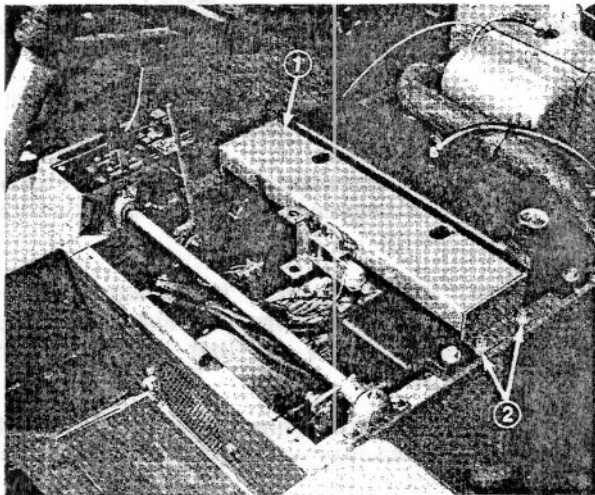

Figure 73
4. Unplug seat switch. Remove capscrews, lockwashers and flatwashers securing seat support to top of frame (Fig. 73). Set seat support aside.
3. Install seat support with capscrews, lockwashers and flatwashers. Connect seat switch (Fig. 73).